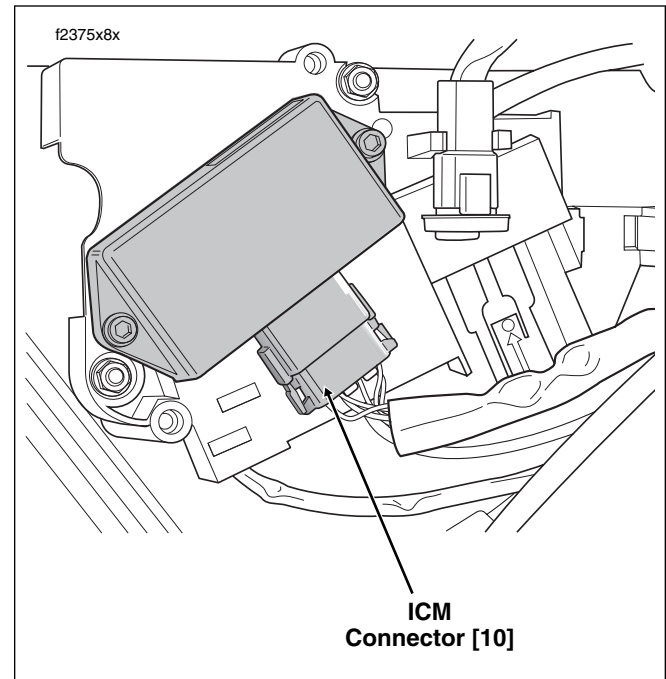

Figure 8-6. Electrical Bracket (Under Right Side Cover)
3. Disconnect ICM connector [10], 12-place Deutsch. See Figure 8-6.
2. Connect ICM connector [10], 12-place Deutsch. See Figure 8-6.